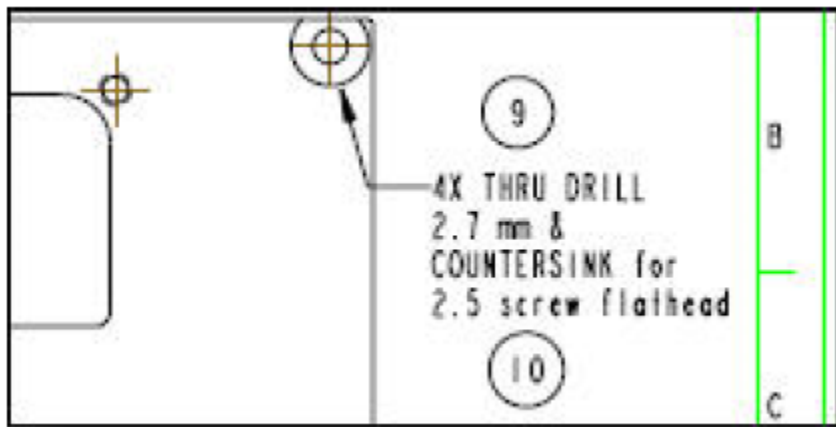

Figure 18 – Callout for Less Expensive Countersink, Source: Pro CNC Inc.
- If the countersink is being used for a flathead screw, it should be possible to make the tolerance looser by removing a decimal place as shown in Figure 18.